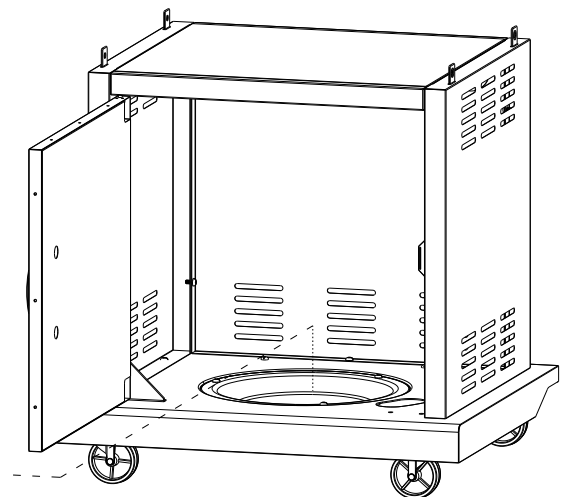

Fig.4
1. Open the doors of the cabinet. Place a 9 kg (20 lb.) tank with foot ring into the tank tray. See Fig. 4. Make sure the tank valve is in the OFF position.